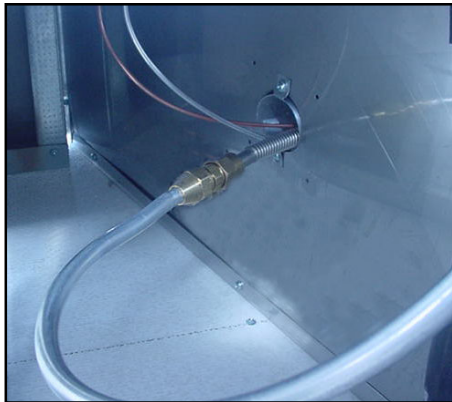

Figure 5 - Connect Flexline
- g. Reach through the back access hole of the enclosure and connect the flexible stainless steel gas line to the soft aluminum gas line with the male flare connector supplied. See Figure 5.